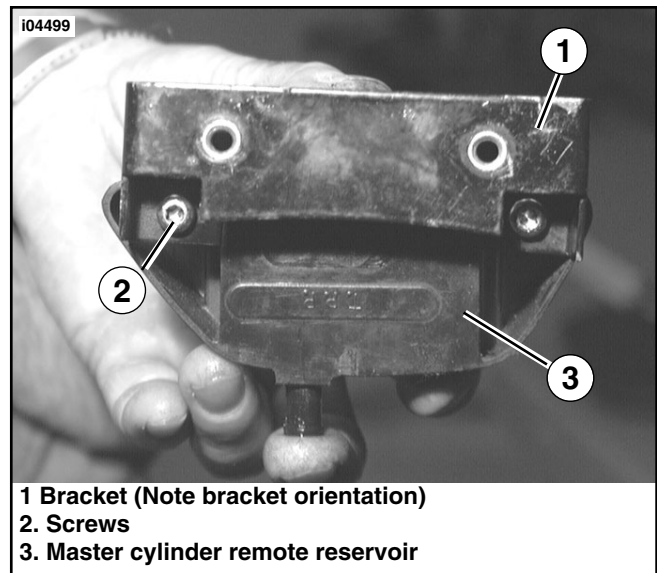

Figure 7. Mount Reservoir To Bracket
1. See Service Parts Illustration and Figure 7. Obtain Bracket (43), Remote Reservoir (41), two Flatwashers (50), two Lockwashers (52) and two Screws (38) from kit. Orient reservoir as shown and attach to reservoir bracket. Tighten securely. Do not install hose yet.